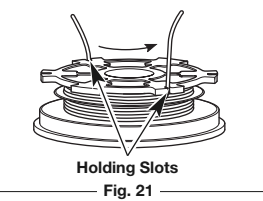

Fig. 21
- Insert the two 6-inch sections into the two 0.095 holding slots (Fig. 21).